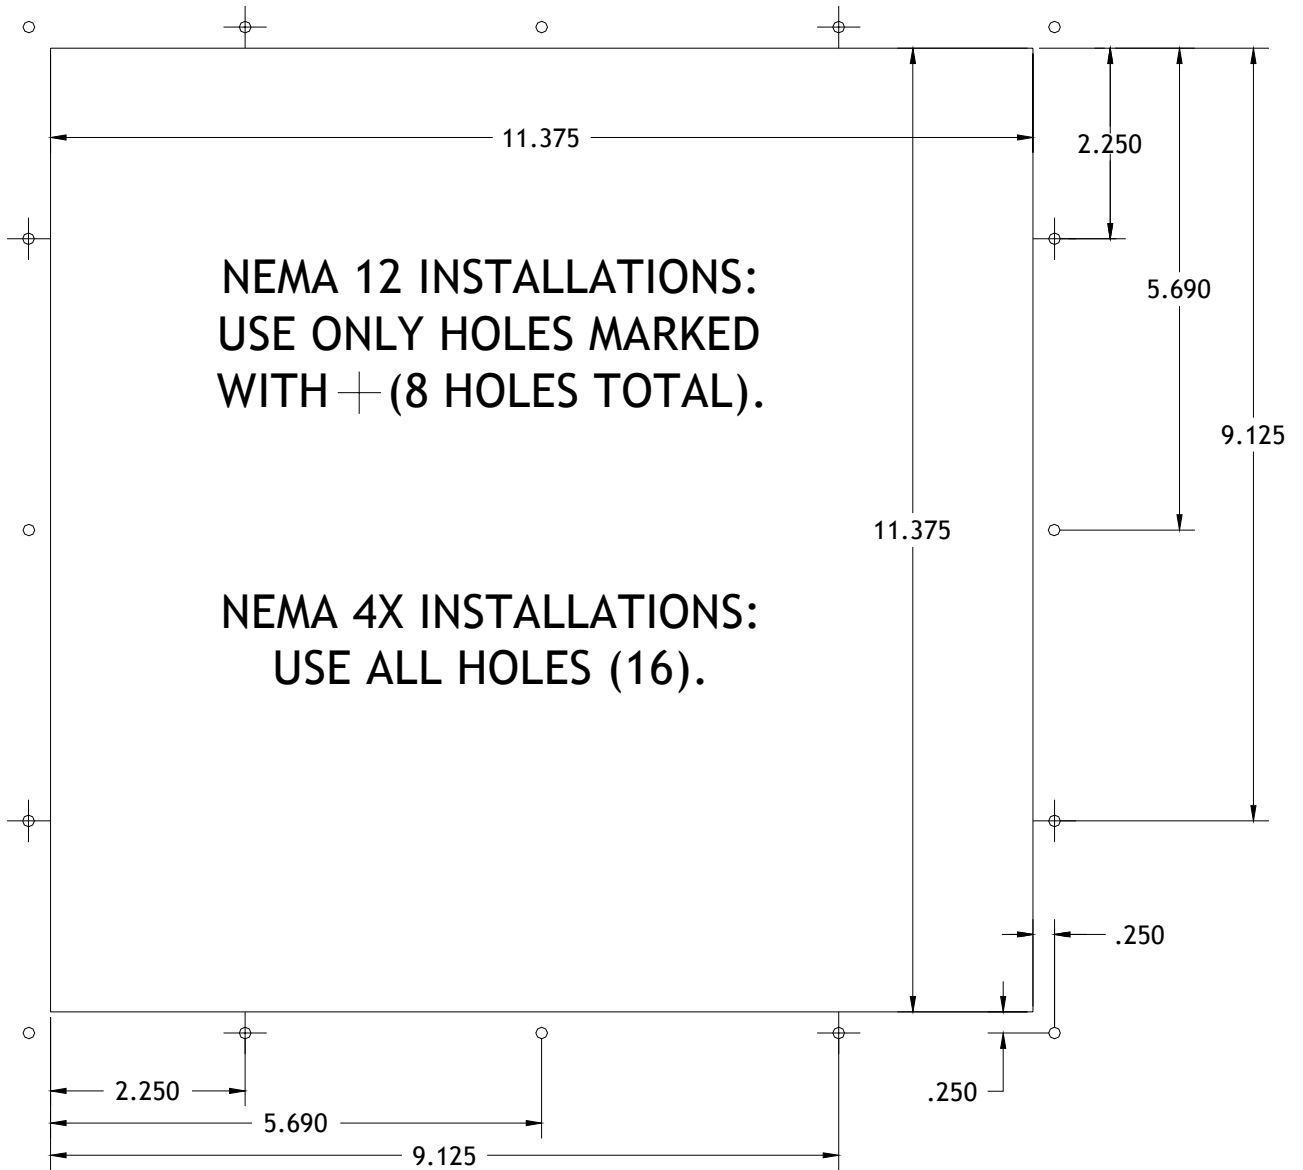

FIG. 2.3
To mount the 800 Btu unit you will need to cut an opening in your enclosure and drill mounting holes. A cut-out drawing (Fig. 2.3) showing the cut-out size and hole locations has been included in this manual (see Fig. 2.3). The instructions for installing the air conditioner are printed below.
2. Layout the cut-out and hole pattern for the AC on the enclosure. Refer to Figure 2.3.
- b. If this is an indoor installation with no chance of exposure to water or other liquids, you can use 8 screws per the NEMA 12 pattern in Fig. 2.3.